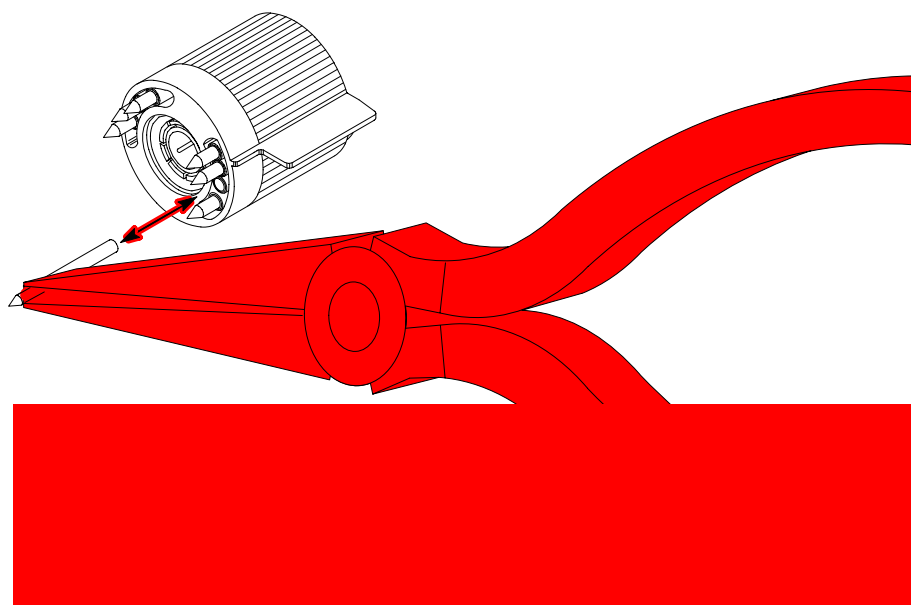

Figure 14: Replacing TekProbe interface pins
1. To remove the interface pin, grasp the pin with a pair of needle-nose pliers and gently pull the pin out. See Figure 14.